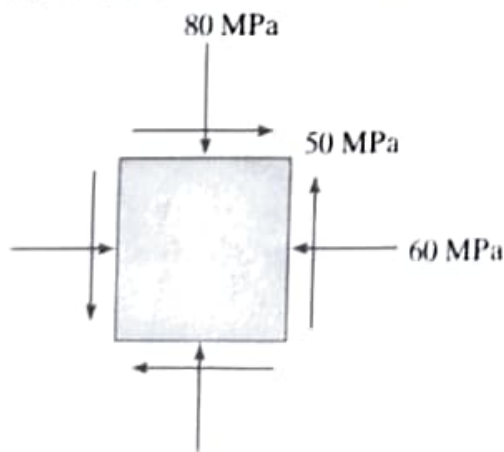

Figure 4
7. The state of stress at a point is shown in the Figure 4. Using analytical method, determine (a) the principal stresses, (b) the maximum in-plane shear stress and average normal stress at the point and (c) the orientation of principal planes and the maximum shear stress plane. Verify the above answers by drawing a Mohr's circle. Also determine the normal and shear stresses at an angle of 60° clockwise and show the state of stress on the orientated element. [20]